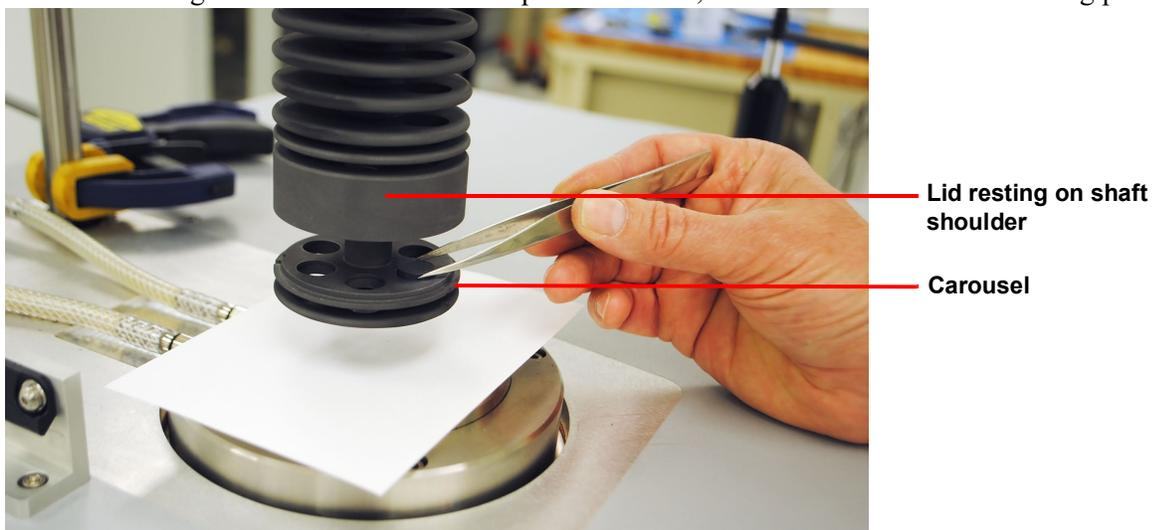
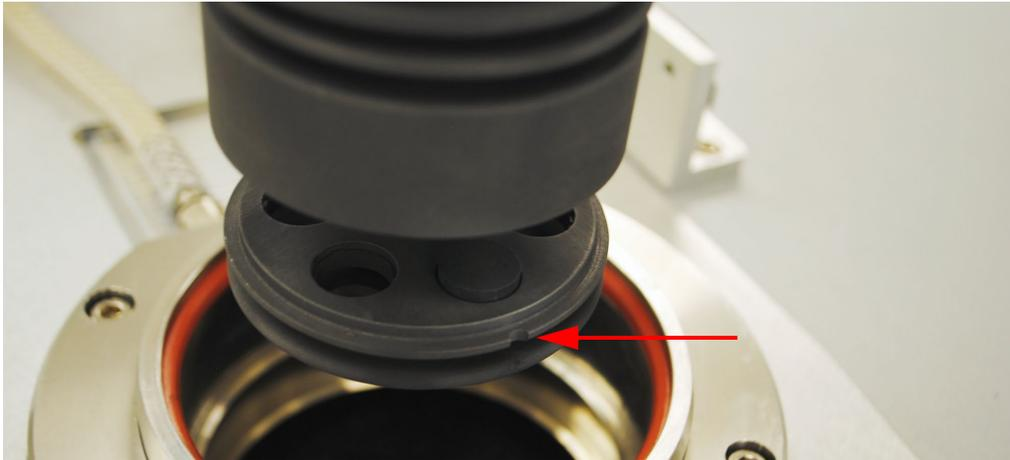

Figure 31 Sample holder.
Figure 32 Notch in sample holder indicating Position 1.
- 3 Raise the lid, rotate it slightly, and rest it on the shoulder of the carousel shaft, and then load the samples into the holder cavities using tweezers (Figure 31). Positions are counted from the cavity marked by a notch (position #1) counterclockwise (Figure 32). All holder cavities must be filled, even if the samples are not being tested. Once all of the samples are loaded, lower the lid back into its resting position.